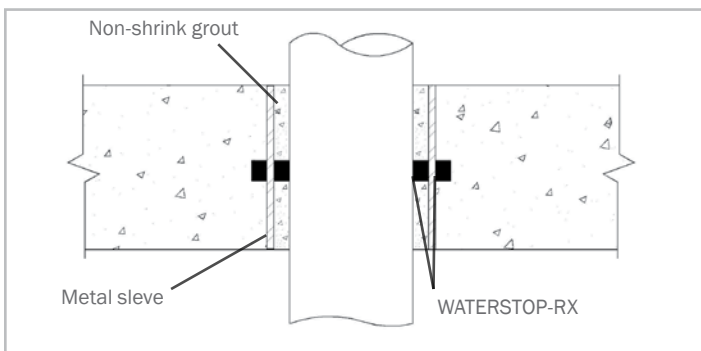
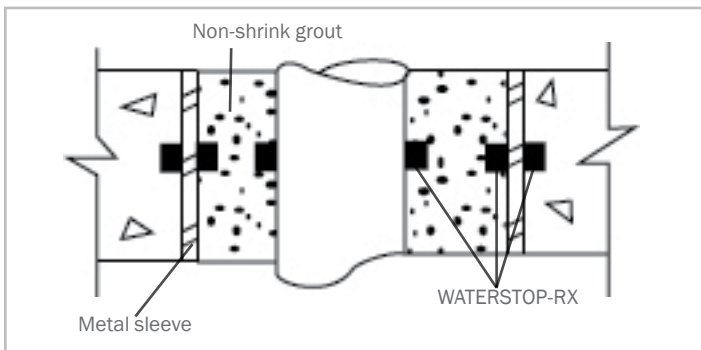

Figure 4.4 – Sleeved Pipe
Figure 4.5 – Sleeved pipe (excessive gap)
**Sleeved Pipe Penetrations:** Install WATERSTOP-RX around the outer diameter of the sleeve. Install another WATERSTOP-RX strip between the sleeve's inner diameter and the pipe, contacting both surfaces continuously (see Figure 4.4). When there is an excessive gap between the inner diameter of the sleeve and the pipe, it may be necessary to install two separate WATERSTOP-RX strips – one on the inner diameter and the other on the pipe. Then completely fill the void area between the sleeve and the pipe with non-shrink grout (see Figure 4.5). Consult manufacturer for recommendations on conditions not represented herein.